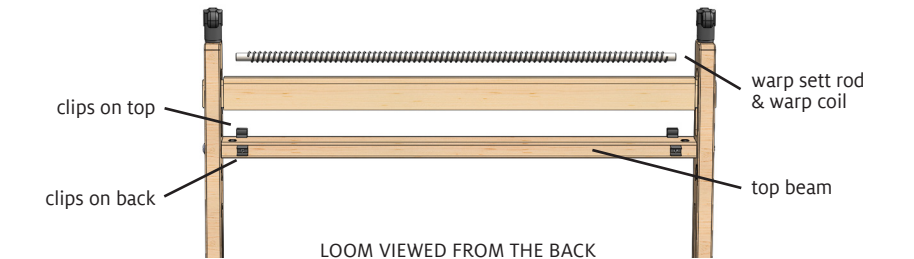

FIGURE 11: INSTALL THE WARP COIL
**4.** Install the warp coil: Remove the warp sett rod from its clips on the top beam and slide the rod through your desired coil. Clip the warp sett rod onto the top beam, fitting the coil between the clips (Figure 11). Use clips on the top if you want to warp from the front or use clips on the back to warp from the back. (After warping is completed, you can carefully slide the rod and coil around to the top, if desired.)